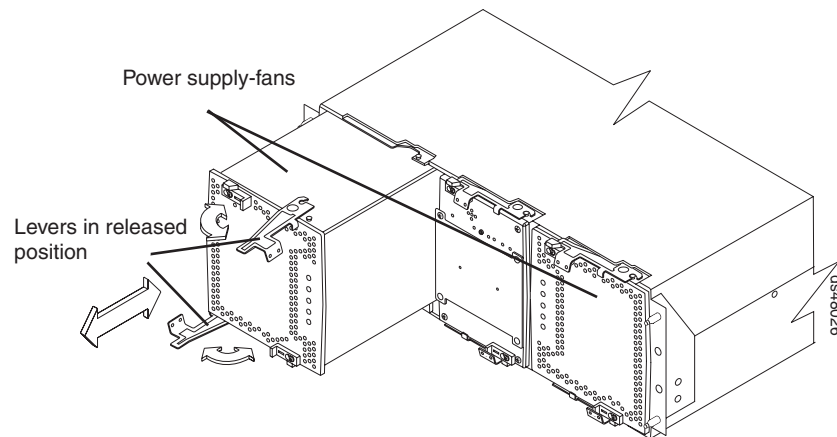

Figure 17. Removing the power supply and fan units
3. Remove both power supply and fan units. Figure 17 shows the locations of the power supply and fan units and the power supply and fan unit levers.